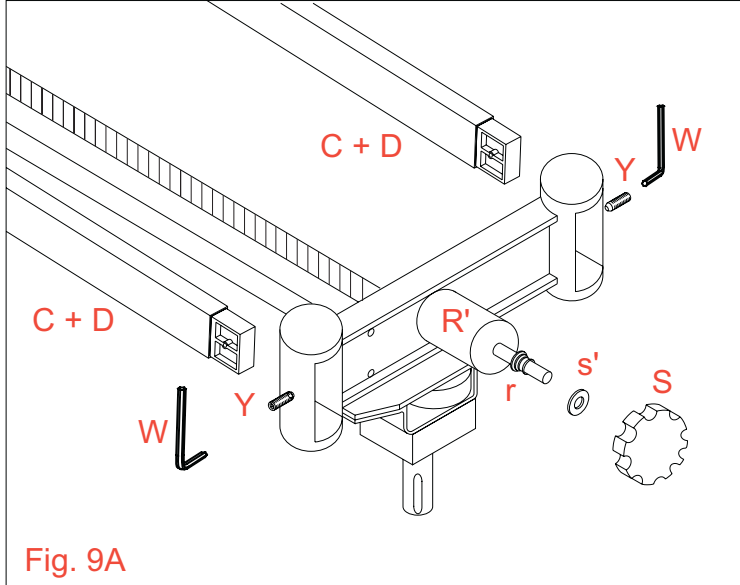

Fig. 9A
5. (Fig. 9A) Join the casting R' to the crossbars C+D making sure that 2 ends of the belt are **not tangled or twisted** and fix the screws Y with the Allen key W. Remove the hand wheel S, the washer s' from the casting R' but don't remove the spring r.